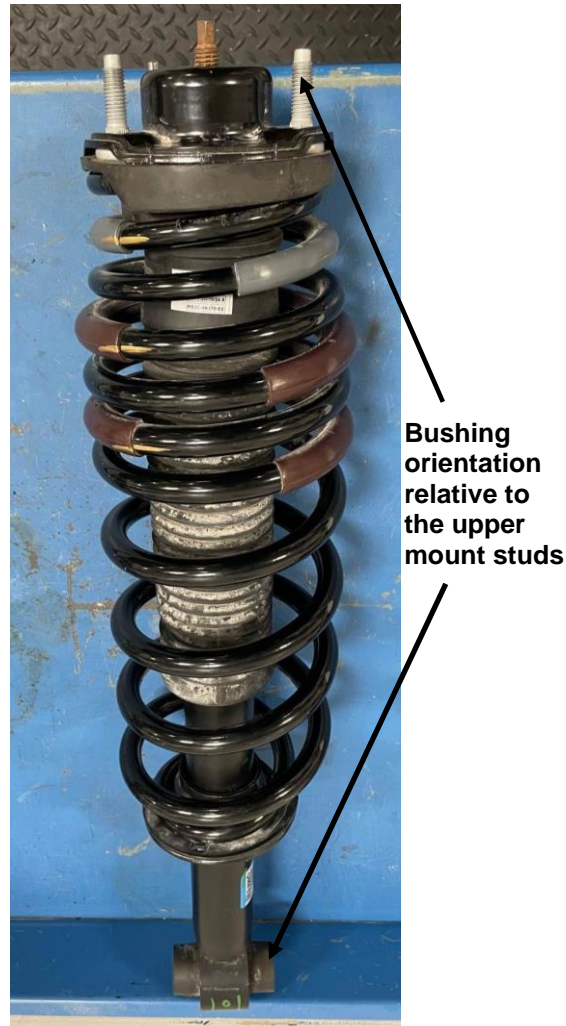

Figure 1: OEM Bushing/spring
- B. Note the lower bushing orientation relative to the studs and pin on the upper mount as shown in Figure 1 (important for reassembly).
- F. Using an appropriate spring compressor, compress the appropriate spring and assemble it with the new Bilstein shock. **For 6100s, use the OEM coil spring. For 6112s, use the Bilstein supplied coil spring.** Ensure that the coil spring is installed in the direction shown only. Refer to Figure 1.
- I. Rotate the shock so the lower bushing is aligned with the upper mount studs as noted in step B and shown in Figure 1.